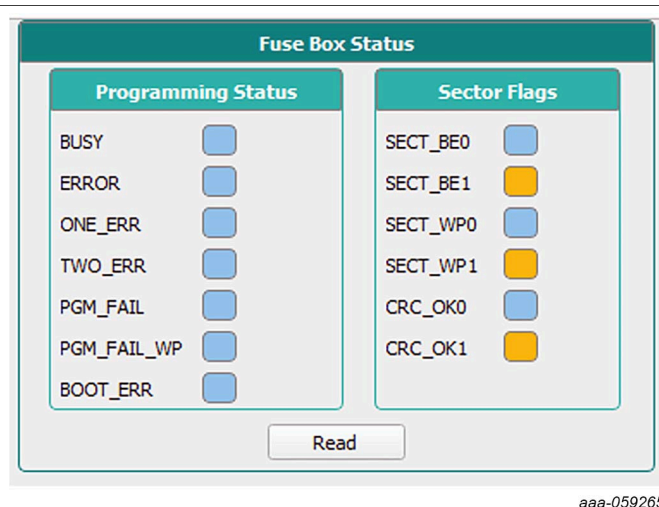

Figure 21. Fuse box status
2. Change to Test mode and change the GUI page to the **PROG** tab. Read the **Fuse Box Status** to make sure the device is blank and accessible to program. The status of the good blank part should be as in Figure 21.